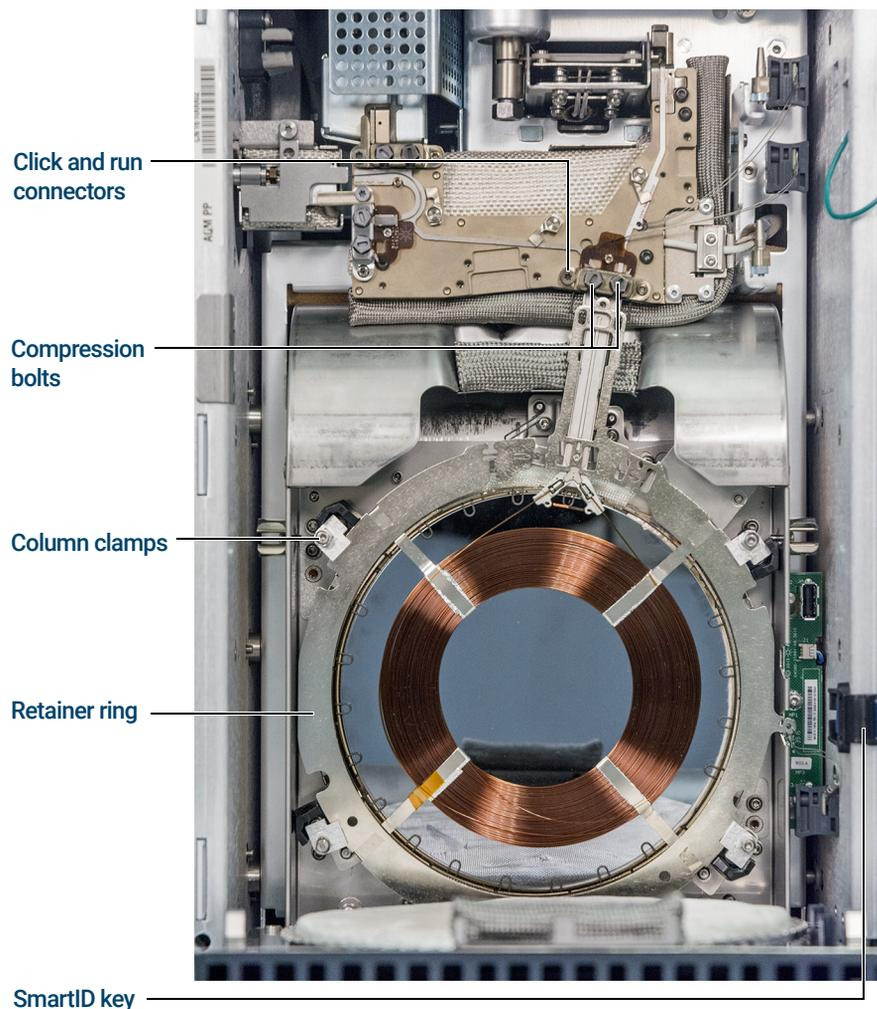

Figure 12. 9000 GC column and related parts
- 7 Using the Intuvo torque driver, rotate all four column clamps off the column's retainer ring. (See Figure 12.)